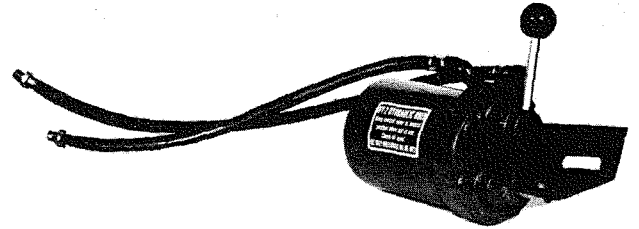

Figure 4
8. Bolt pump support (4827) to pump using $\frac{5}{16}$ -18 x $\frac{5}{8}$ Hex Head Cap Screw and $\frac{5}{16}$ Lock Washers. Install hoses to pump, placing the long hose to the front and the short one to the rear. Install operating handle. See Figure 4.